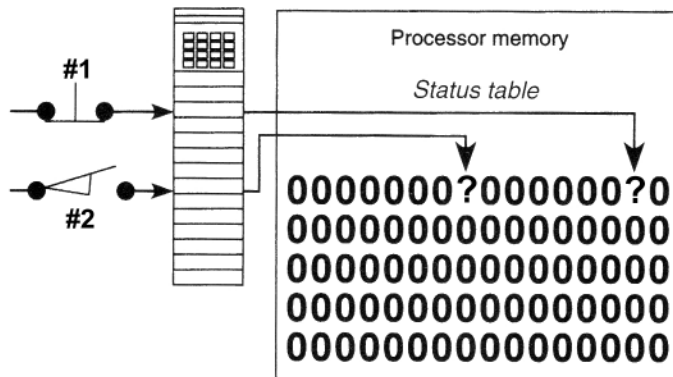

Figure 2-12 I/O module and table for question 44.
44. Answer each of the following for the I/O module and status table shown in Figure 2-12.